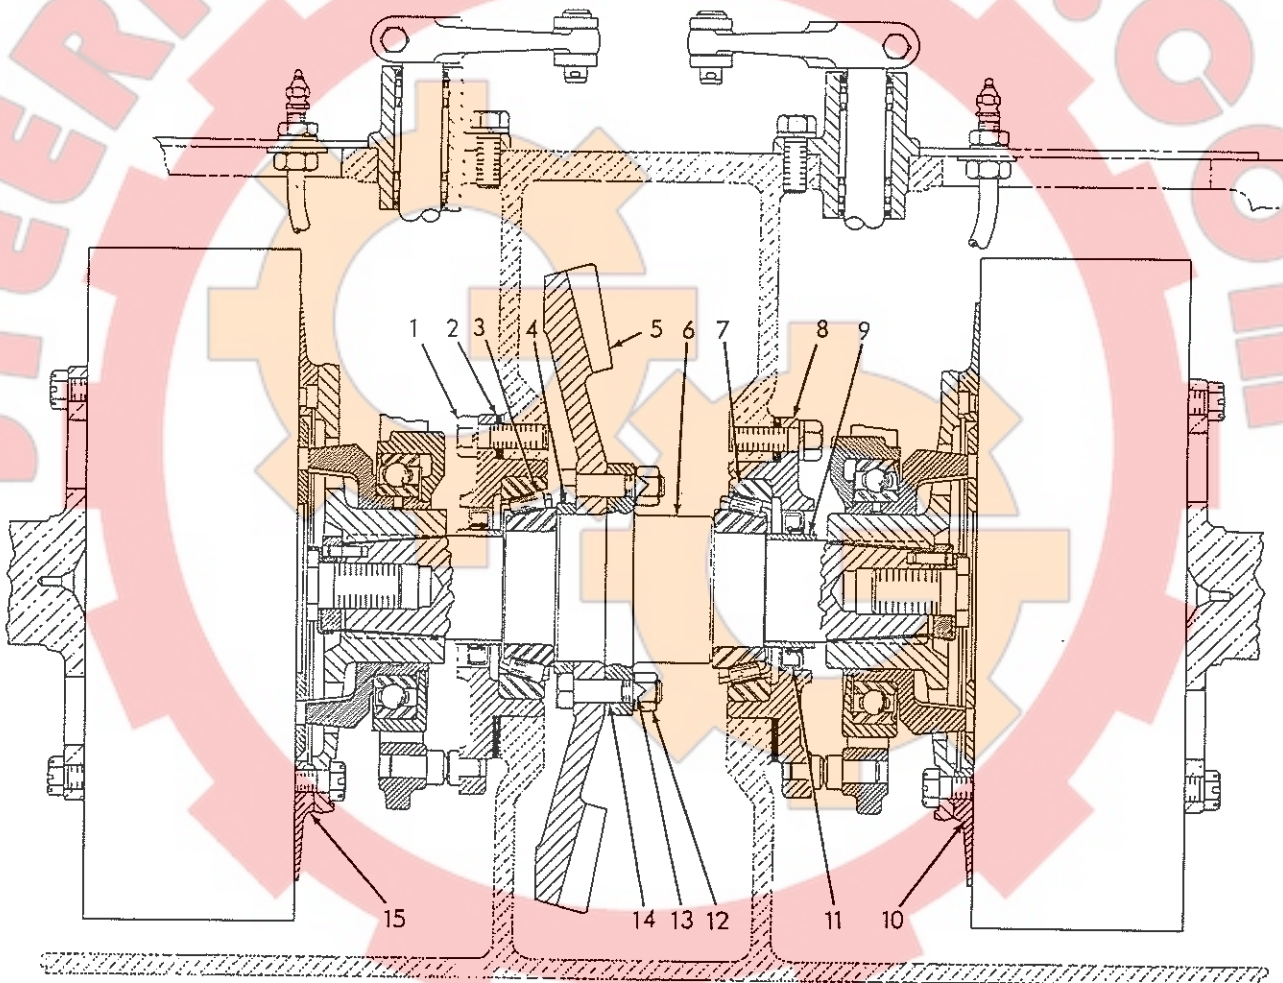
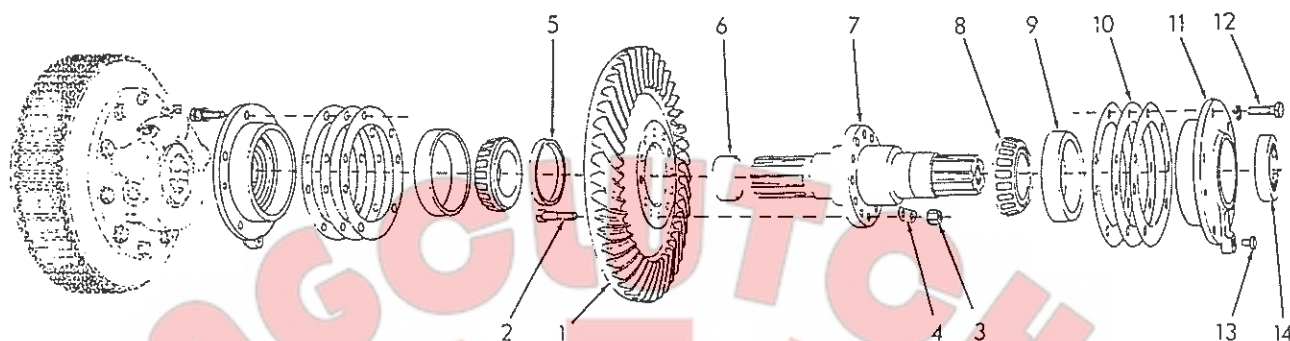

Fig. 13 Bevel Gear and Shaft - Sectional View
Fig. 15 Bevel Gear and Shaft Details
The bevel gear, located in center compartment of steering clutch and final drive housing, is attached to flange on bevel gear shaft, Fig. 13. The bevel gear shaft is supported at each end by tapered roller bearings in removable cages. Bevel gear is driven by transmission bevel pinion; power from bevel gear is transmitted through steering clutches to final drives.
3. Refer to Fig. 13; remove capscrews attaching bearing cages (8) to inner walls of steering clutch compartments; place wooden block under bevel gear to support gear and shaft and remove bearing cages; tie bearing adjustment shims (2) to their respective cages to prevent loss. Mark bearing cages so they will be reinstalled in their original positions (left and right).
1. Install sleeves, Fig. 15 (6), if removed; press sleeves against shoulder on shaft.
2. Press one bearing cone, Fig. 15 (8) on long end of shaft with large O.D. of bearing tight against shoulder on shaft. Place bevel gear on suitable work bench (with teeth of gear downward). Position capscREW locking ring (5) on bevel gear and install capscREWS (2) in bevel gear; turn capscREW heads as necessary to clear locking ring as capscREWS are installed.
3. Remove locking ring and position bevel gear in bevel gear compartment with teeth of gear facing right steering clutch compartment. Install bevel gear shaft through right steering clutch compartment and align capscREWS in bevel gear with holes in bolting flange of shaft. Bump or drive bevel gear shaft into bevel gear until locking plates, Fig. 15 (4) and high nuts (3) can be started on capscREWS. Install locking ring (5) and tighten nuts evenly until bevel gear is properly located on shaft.
4. Lubricate other bearing cone, Fig. 15 (8) and start it on short end of bevel gear shaft with large
- Press bearing cups Fig. 13 (7) in bearing cages (8); make certain cups are seated firmly in cages. Lubricate bearing with clean oil and install each bearing cage (with original bearing adjustment shims). Make certain wear pins Fig. 15 (13) in each bearing cage is at bottom; start bearing cage attaching capscrews (12), but do not tighten at this time.
Do not install oil seals, Fig. 15 (14) in bearing cages until bevel gear adjustments have been made (refer to "ADJUSTMENTS").
- e. After adjustments are completed, remove bevel gear shaft bearing cages and install oil seal Fig. 15 (14) in each cage (sealing lip inward). Reinstall bearing cages (with bearing adjustment shims); bump bearing cages while tightening cap-screws to make certain bearings are properly seated.